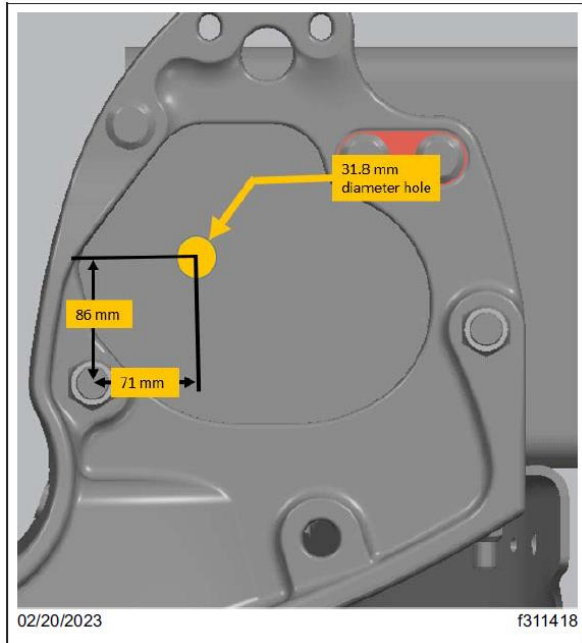

Fig. 2, Drilled Hole Location
- 5.2. Inspect the left-hand side frame rail for a 31.8 mm diameter relief hole in the location shown in Fig. 2.
- 5.5. Drill a 31.8 mm diameter hole on the web of the frame rail at the location shown in Fig. 2. Make sure any components on the inside of the frame rail are clear of the path of the drilling tool. Deburr the hole edges and apply touch-up paint to protect the parts.